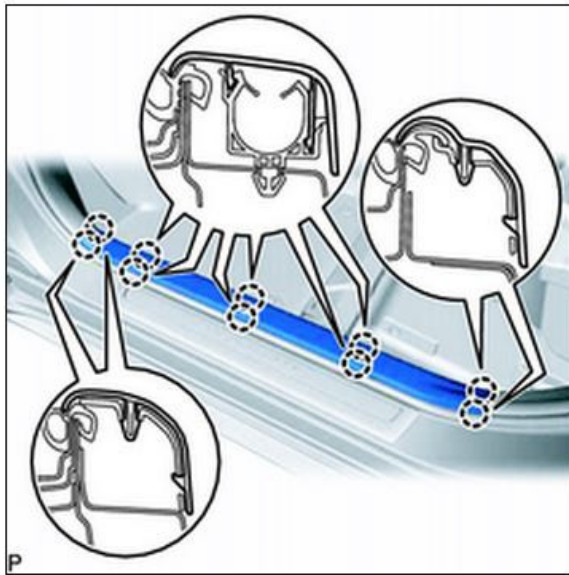

Figure 5
8. Disengage the 10 claws and remove the front door scuff plate, LH. Figure 5.